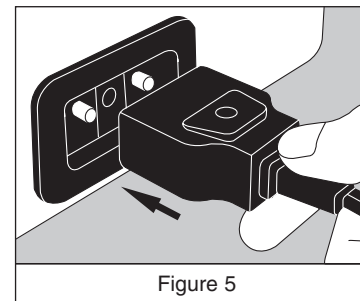

Figure 5
5. Connect the magnetic power cord to the base unit (Fig. 5). Never plug cord into outlet unless magnetic end is attached to deep fryer.
2. See assembly illustration (Fig. 5) regarding power cord. Always attach cord to fryer before plugging into standard electrical outlet.